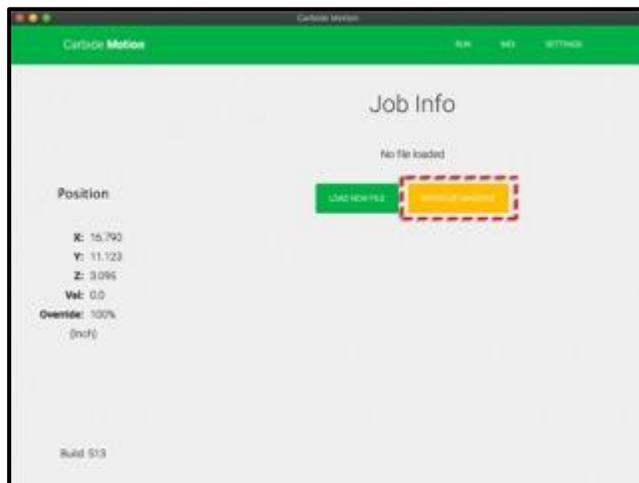

Figure 13-4
1. Click the yellow **Initialize Machine** button. See **Figure 13-4**. This activates the homing sequence and your machine will do the following: